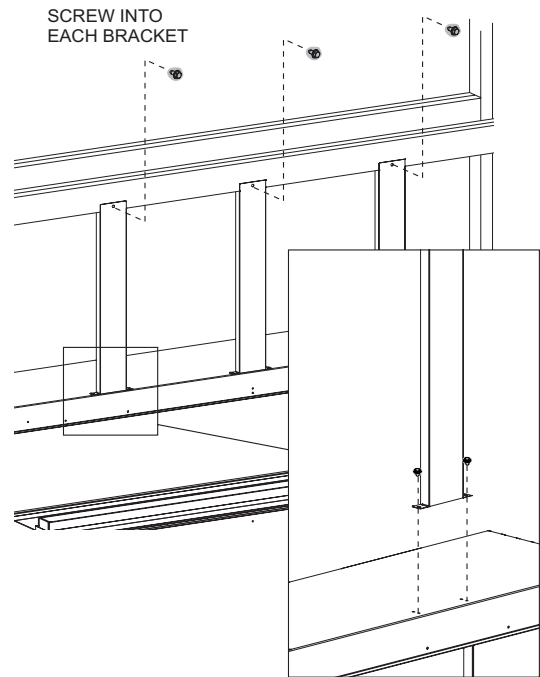

Figure 20 - OPTION 1
- 10a. **OPTION 1** - Secure standoff brackets with drywall screws to the framed opening above the fireplace as shown in **Figure 20.**